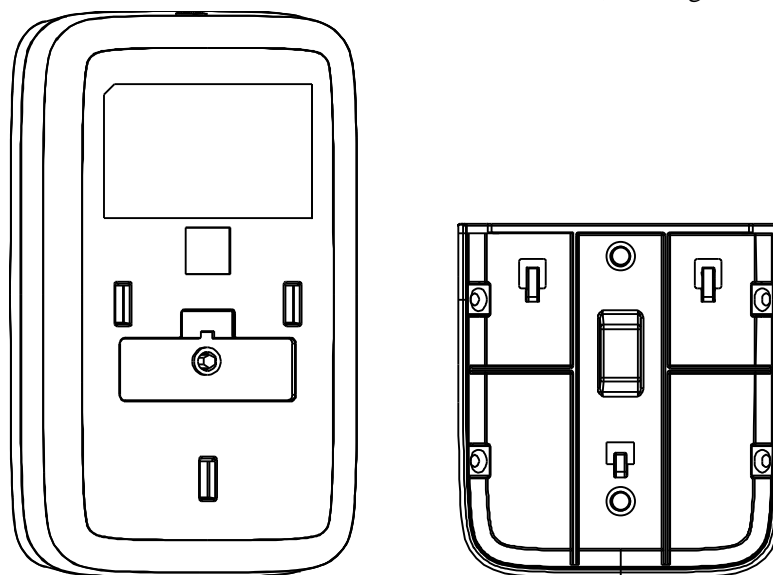

Figure 3- 1
Step 1. Take down installation bracket at the bottom of detector, see Figure 3- 1.
Step 3. For wall mount, installation bracket bottom is parallel to the wall. Fix it on wall with screw via the hole on installation bracket, and hang device on hanger on installation bracket. See Figure 3- 2.